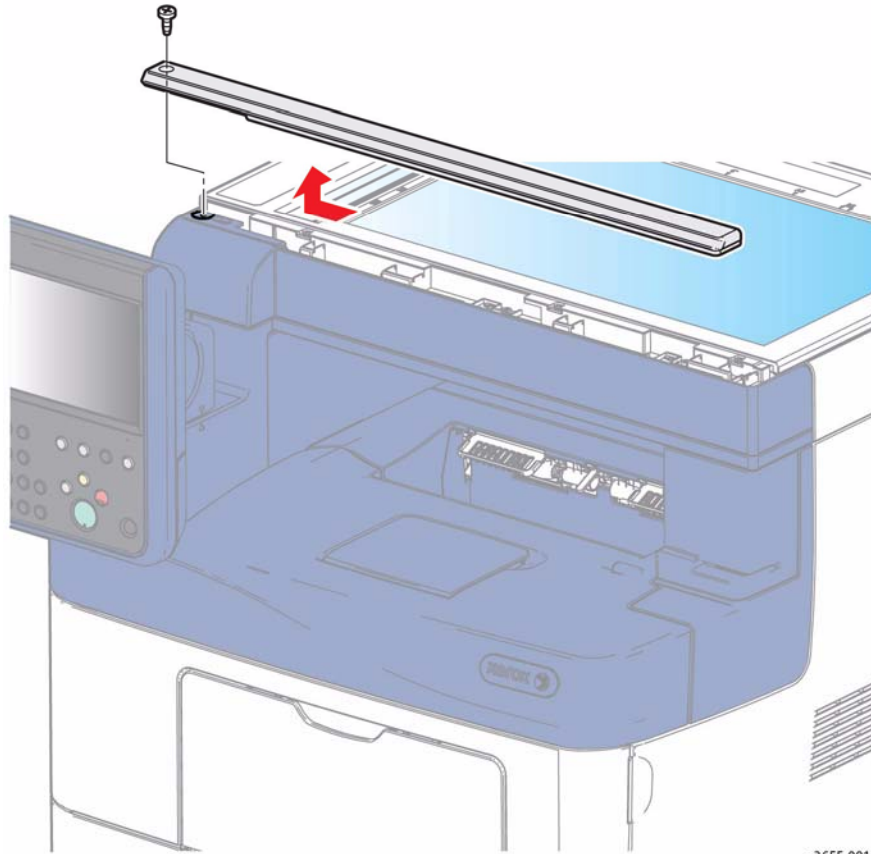

Figure 1 Remove the IIT Top Cover
2. Refer to Figure 1 to locate and remove 1 screw (silver, M3, 6mm) that secures the cover.